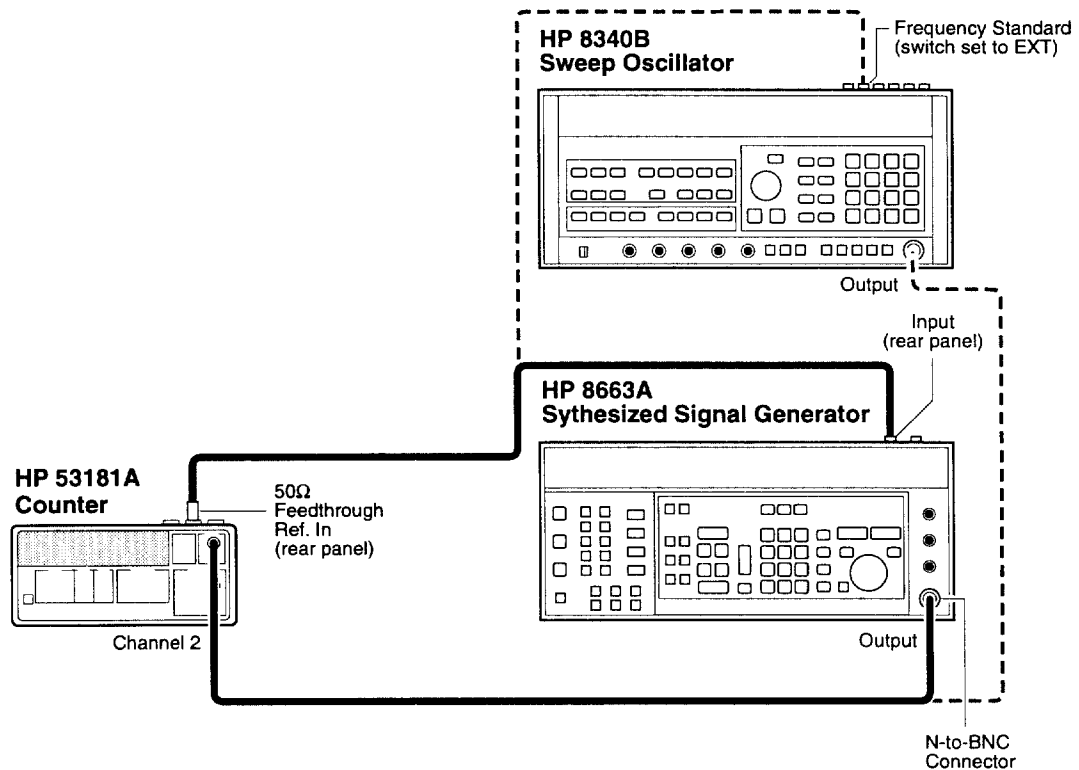

Figure 1-16. Option 015/030/050 Channel 2 Frequency Accuracy Test Setup
- 1 Connect equipment as shown in Figure 1-16.
- 5 Disconnect the HP 8663A output from Channel 2 of the Counter, and connect the HP 8340B Sweep Oscillator output to Channel 2 of the Counter as shown in Figure 1-16.